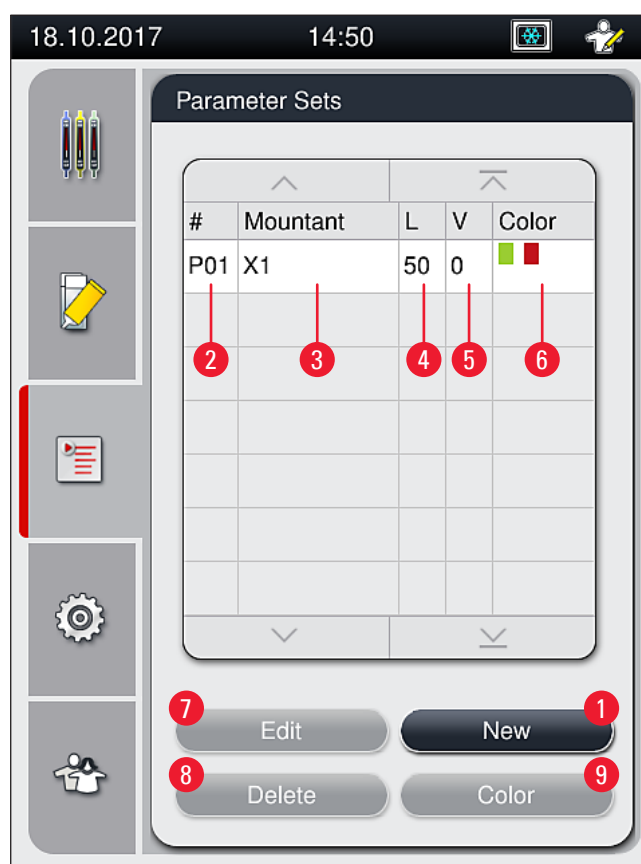

Fig. 42
- The parameter set menu (→ Fig. 42) lets the user create new parameter sets, modify existing ones or assign a rack handle color to a parameter set. Creating or modifying a parameter set requires having the **Supervisor** user status and is only possible if there is no rack in the instrument and the instrument is idle.
- ✓ The newly created parameter set is now saved and can be selected in the parameter set menu (→ Fig. 42).